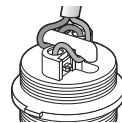

Fig. 3 Built in cable restraints
11. Wrap the sleeved portion of the two wires around the cable restraints, as shown in figure 3.